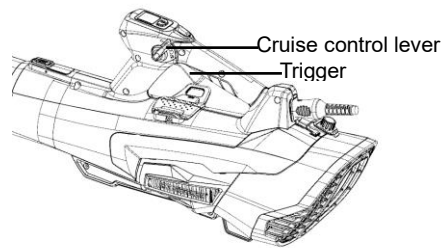

Fig 10
3. The blower can be locked at any speed with cruise control lever (Fig 10)